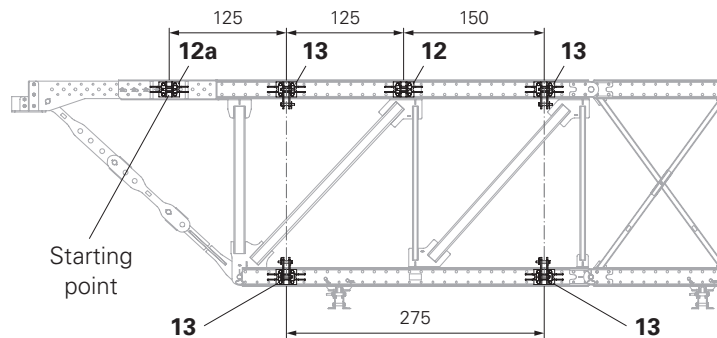

Fig. B2.02
- For Support Frames 5.25 m VRB, the distance is 125 cm or 150 cm in each case. (Fig. B2.02)